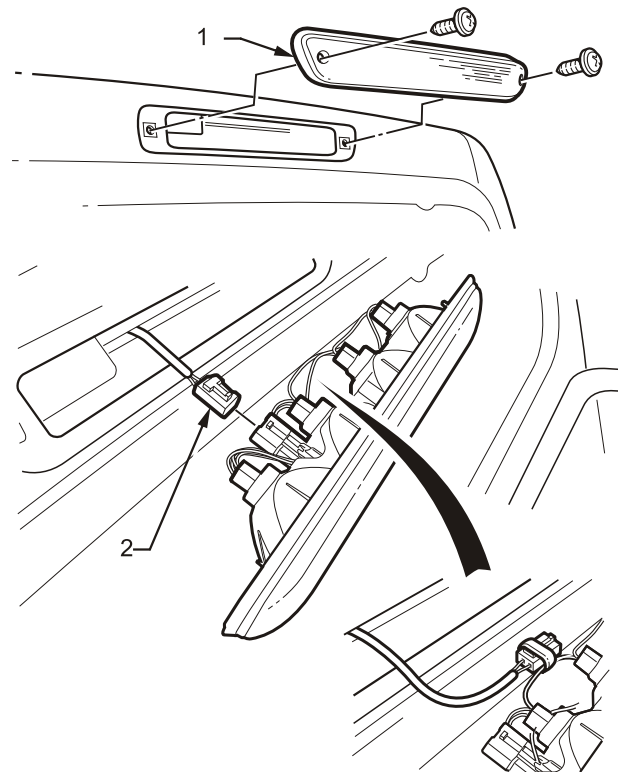

Figure 3
4. Remove the high level stop lamp and disconnect the lamp connector. Reinstall the high mounted stop lamp assembly using the existing screws. Tighten to 2.5N.m of torque. Refer to figure 3.